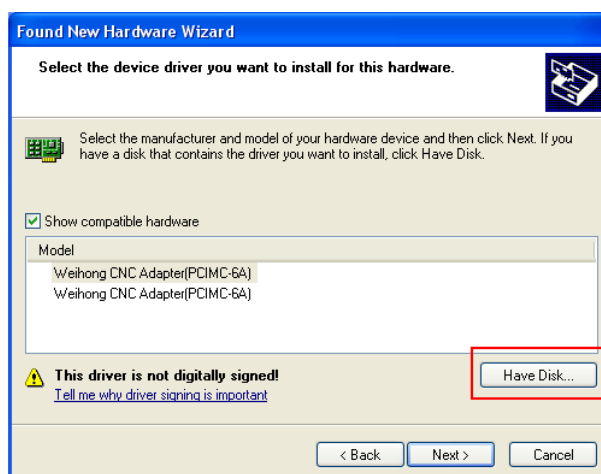

Fig. 2-3 Select the driver manually
- 3) Select “Don’t search, I will choose the driver to install”, click [Next] to continue. A dialog box containing compatible hardware will pop up, as shown in Fig. 2-3,